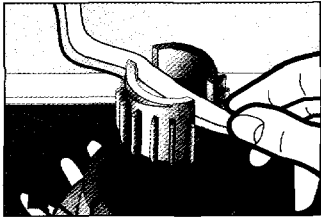

Figure 4
- 2. Connect the cable to the fixtures by placing the cable into the fixture top as shown. (see figure 4)